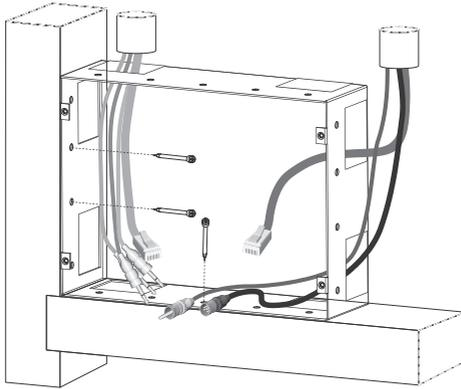

Figure 10. Wall box installation
2. Feed the signal and power cables through the holes in the wall box. The use of conduit is recommended (refer to Figure 10).